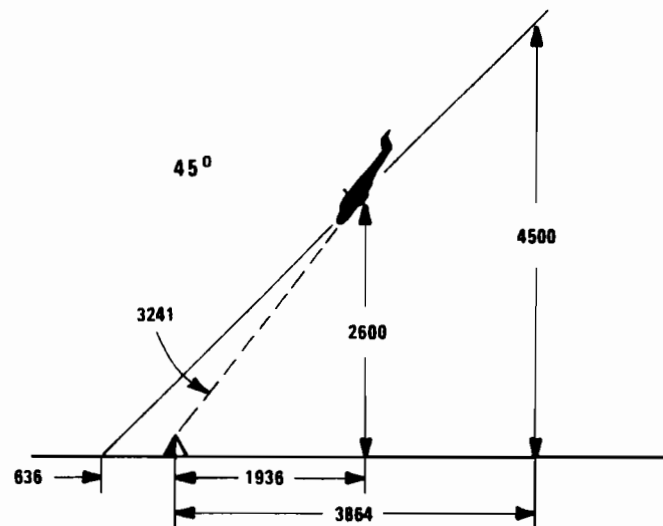

Figure 6-6
(2) Base. The base leg begins the delivery pass. Insure that the power levers are set to about 1200# torque in order to maintain an airspeed of 140 knots. Remember, mismatched torque settings may induce yaw in the delivery. Then check for base leg placement. On a no wind day, the base leg should be spaced as shown in Figure 6-6 for a typical 45 degree pass.